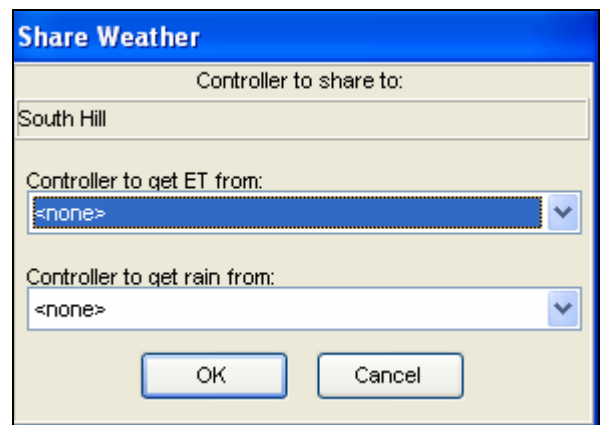

Figure 12.2.6
- A window will appear asking you for the controller that you are getting ET from and the controller that you are getting the Rain from. Enter the appropriate controllers by using the drop down arrows to the right of the boxes (Figure 12.2.6).
Note: If you are using a weather station for weather information (see section 10), and have already set it up, the weather station will appear in the drop down window for “**Controllers to Get ET from:**” and also “**Controllers to get Rain from:**” shown as CR510 (Figure 12.2.6).